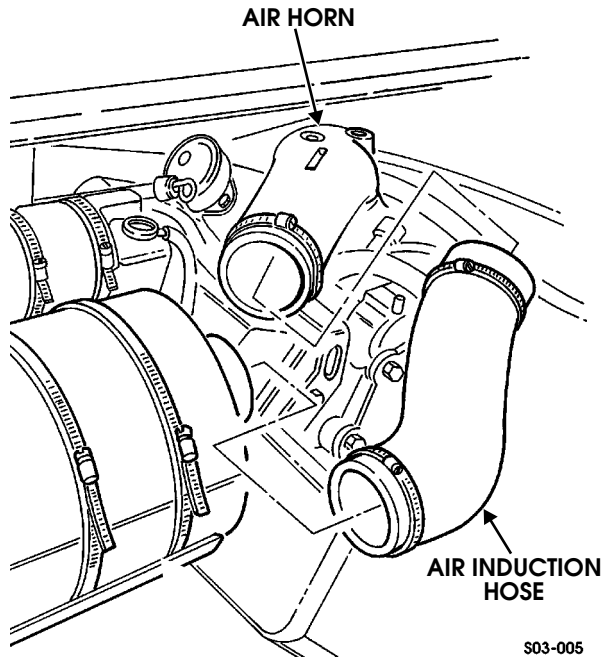

Figure 3-23: Air Induction Hose Attachment
2. Remove hose from air horn and air cleaner (Figure 3-23).
2. Tighten hose clamps to 44 lb-in. (5 N•m) (Figure 3-23).